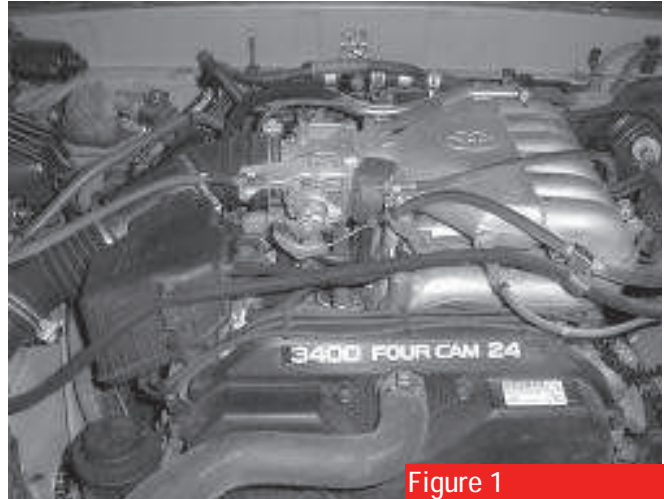

Figure 1
B. Removal of Stock Intake Manifold (figure 1)